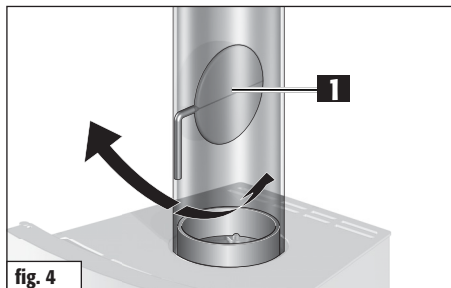

fig. 4
The Olbia has to be connected to a suitable chimney with a minimum effective chimney height of 4.50 m. It can be connected to a chimney to which other fireplaces are already connected. The chimney cross section should correspond to the flue pipe cross section. If the effective chimney height is too low and/or the chimney cross section is too large or too small, the draught capability of your stove can be impaired. The Olbia stove requires a 12 Pa output pressure (chimney draft). At higher output pressures, the stove emissions increase, which puts a high load on the stove and can lead to damage. The Olbia stove has a maximum permissible output pressure of 35 Pa. To limit the output pressure, a butterfly valve (Fig. 4) or output pressure limiter can be used.
The butterfly valve (Fig. 4/1) is an optional control element. It is fitted in the flue pipe and used to regulate the flue gas flow, and can thus slow down the burning-off process. When the handle's position is diagonal to the flue pipe, the flue gas flow rate is turned to minimum. We strongly recommend installing a butterfly valve to reduce the output pressure. Please comply with the country-specific legal regulations.
**Make sure butterfly valve (Fig. 4) is open before opening the fire box door during the burning phase.**